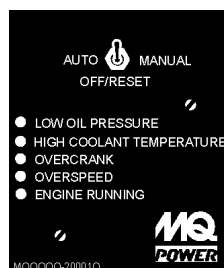

Figure 10.
9. **Pre-Heat Button** – Press hold this button until the preheat lamp is lit (ON).
10. **Auto On/Off Engine Controller** – This controller as a vertical row of status LED's (Figure 10), that when lit, indicate that an engine malfunction (fault), has been detected. When a fault has been detected the engine controller will evaluate the fault and all major faults will shutdown the generator.